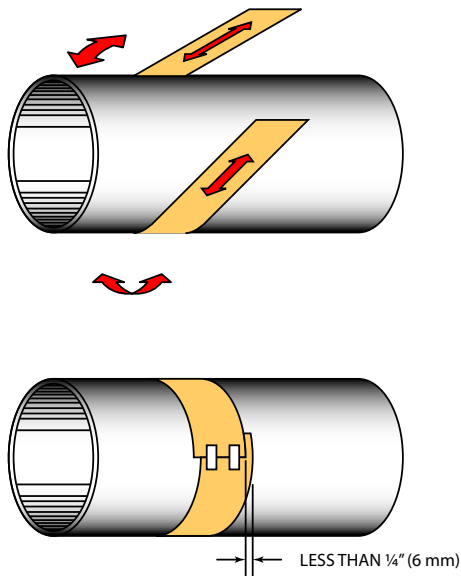

Figure 19: Paper template alignment
1. Wrap the paper around the pipe in the manner shown in *Figure 19*. Align the paper ends to within 1/4 inch (6 mm).